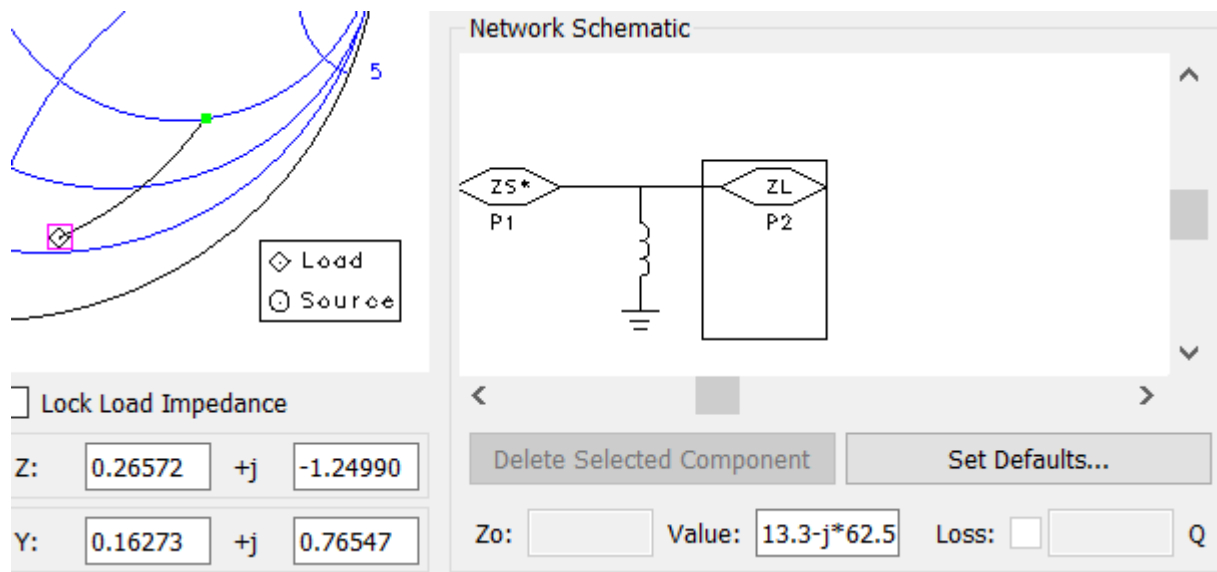

Figure 22. Placing the shunt inductor
- To build the matching network, select the **shunt inductor** from the Smith Chart Utility palette. Move the cursor on the Smith chart to the 50 Ω circle of constant resistance. Left click on the Smith Chart to 'place' the shunt inductor, as shown in Figure 22. The placement does not have to be exact.